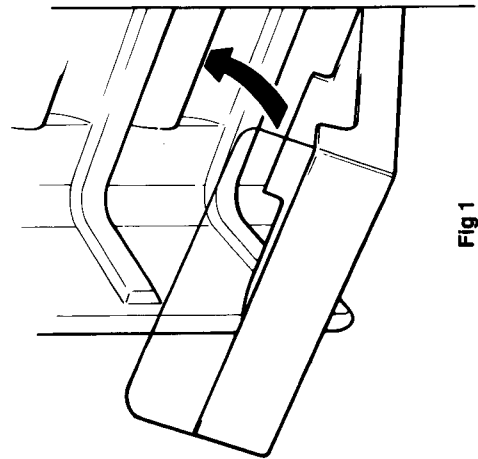

Fig 1
19. Replace both adjustable front feet (A) setting them approximately 35 mm (1 3/8") from the bottom of the cabinet.
**Commodity rack adjustment, see Fig 1**